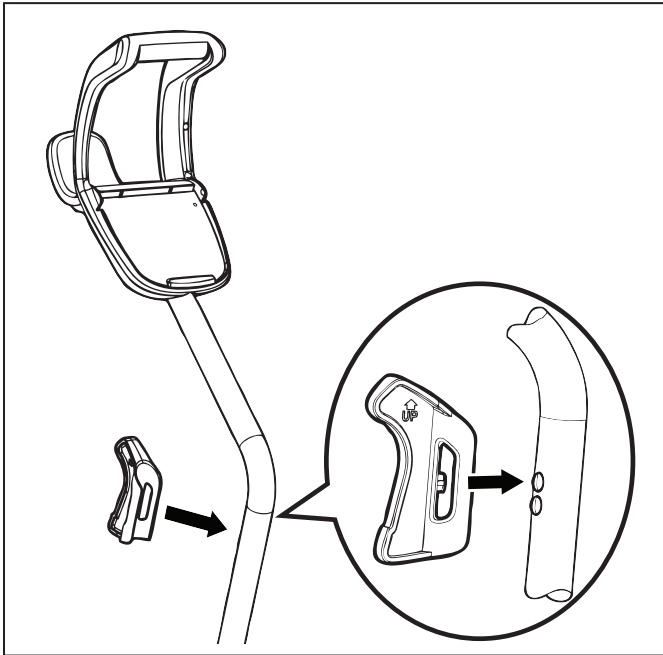

Figure 7. Snap Cleaner Hook into Place
- Align cleaner hook pins with holes in the handle tube and snap into place (Figure 7).